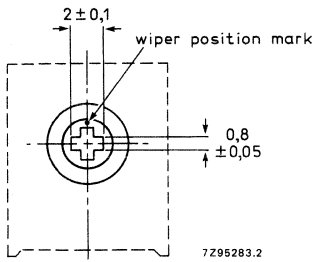

Fig. 3 Cross slot.
* For details of available slots see Figs 3 and 4.